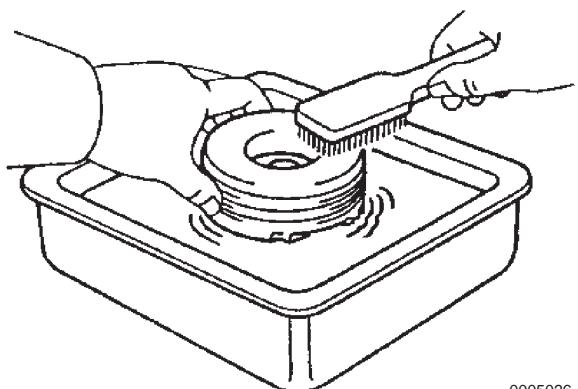

Figure 5-113
3. Completely clean the piston using a brush and solvent (**Figure 5-113**).